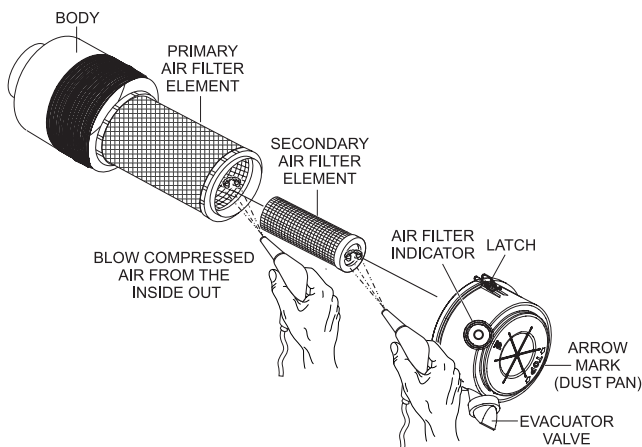

Figure 48. Engine Air Cleaner
This Isuzu diesel engine is equipped with a replaceable, high-density, paper air cleaner element (Figure 48). The air cleaner is also equipped with an inner (secondary) element that is used as a backup filter should the primary element become damaged. Check the air cleaner daily or before starting the engine. Replace the air cleaner as needed.
1. Release the latches that secure the cover to the air cleaner body (Figure 48).
2. Remove the **air cleaner cover** (Figure 48) and set it aside.
3. Remove both the primary and secondary air cleaner elements (Figure 48).
5. To clean the **primary element** (paper air filter) as shown in Figure 48, tap the filter element several times on a hard surface to remove dirt, or blow compressed air, not to exceed 30 psi (207 kPa, 2.1 kgf/cm²), through the filter element from the inside out.
8. Clean the inside of the **air cleaner body** (Figure 48).